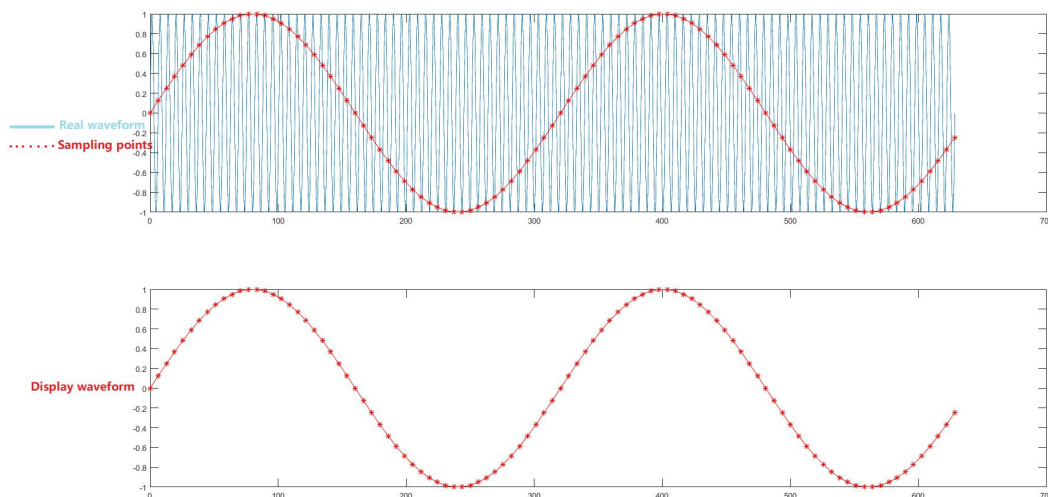

Figure 10-2
- **Wave Mixing:** When the sampling rate is 2 times lower than the actual signal frequency (Nyquist frequency), the frequency of the reconstructed signal will be less than the actual signal frequency. As shown in Figure 10-2.